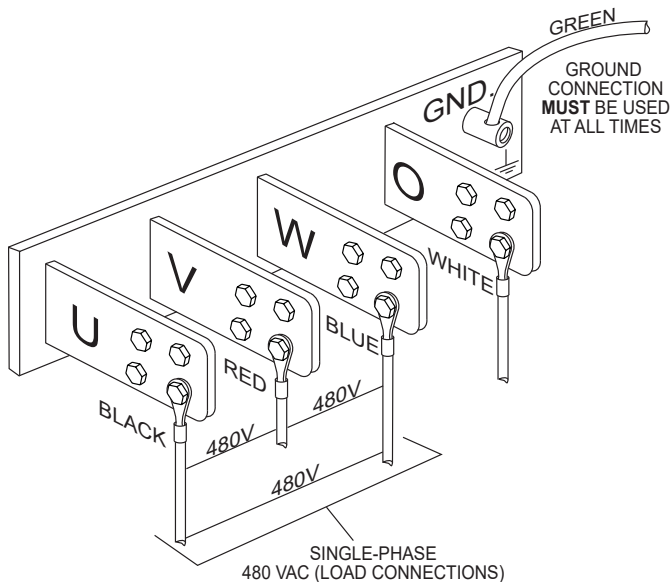

Figure 22. UVWO Terminal Lugs (Single-Phase 480-Volt Connections)
2. Connect the load wires to the UVWO terminals as shown in Figure 22.